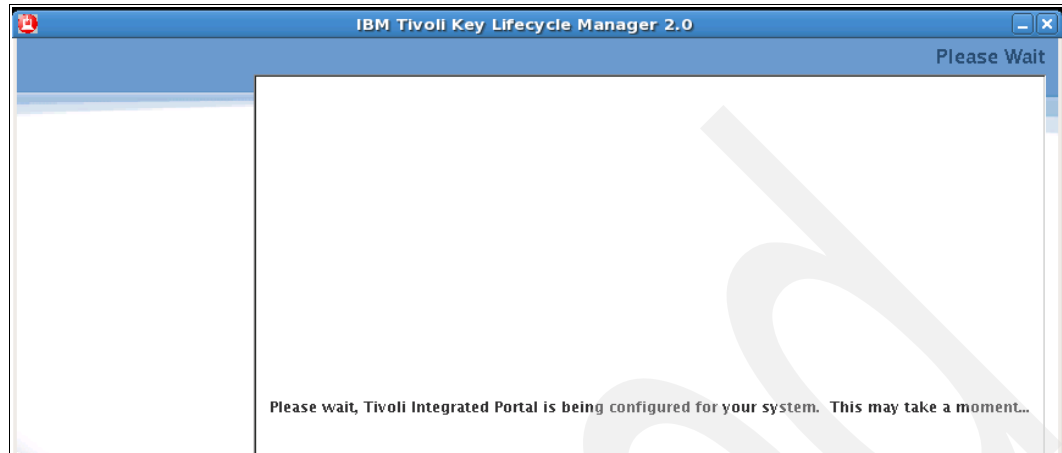

Figure 7-14 TIP configuration
17. The next screen prompts you to wait until TIP is configured for your system (Figure 7-14).